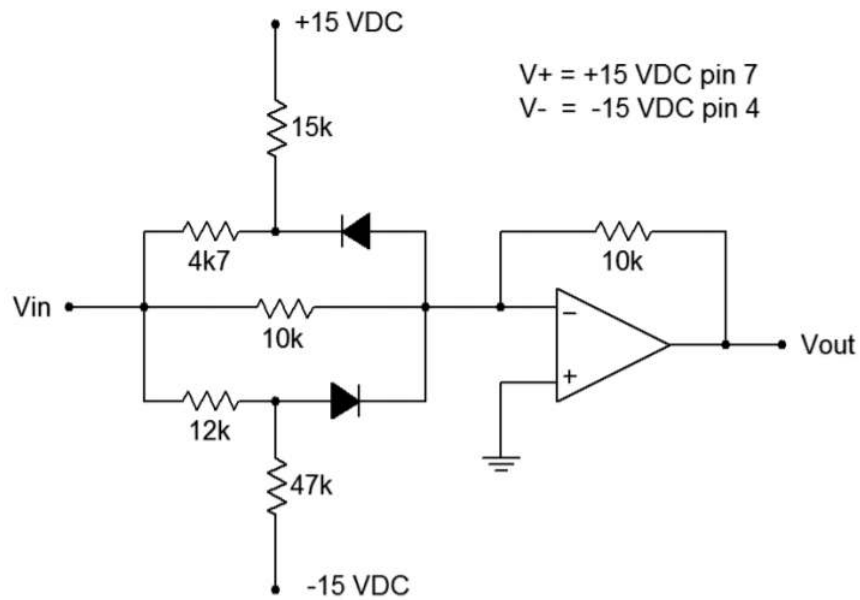

Figure 14.5.1
1. Calculate the break-points and slopes for the input/output transfer curve of the circuit in Figure 14.5.1. Record these values in Table 14.7.1.
2. Assemble the circuit of Figure 14.5.1.
1. What would happen in Figure 14.5.1 if the 12k Ω and 4k7 Ω were swapped?
3. Does the value of the DC power supply have any effect on the break-points of the circuit of Figure 14.5.1?
5. What would the transfer curve look like if Figures 14.5.1 and 14.5.2 were cascaded?